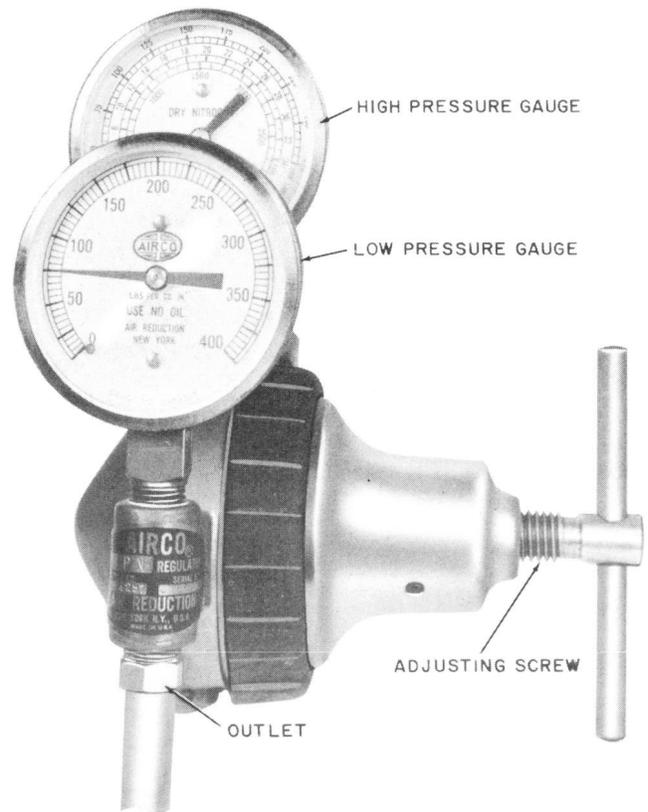

Fig. 3—C Gas Regulator
2.07 The C Gas Regulator (Fig. 3) is used to vary the operating pressure between 50 and 100 psi, depending upon the number and type of conductors being joined.